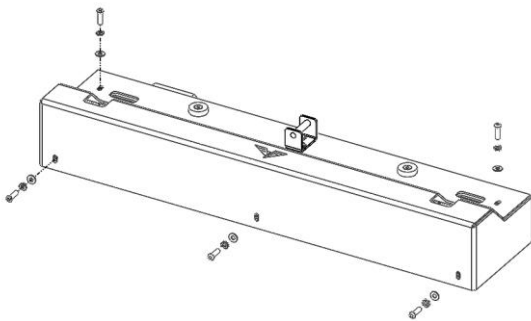

Figure 7: Power Box Cover Removal
7. Unbolt Power Box Enclosure cover shown in Figure 7.